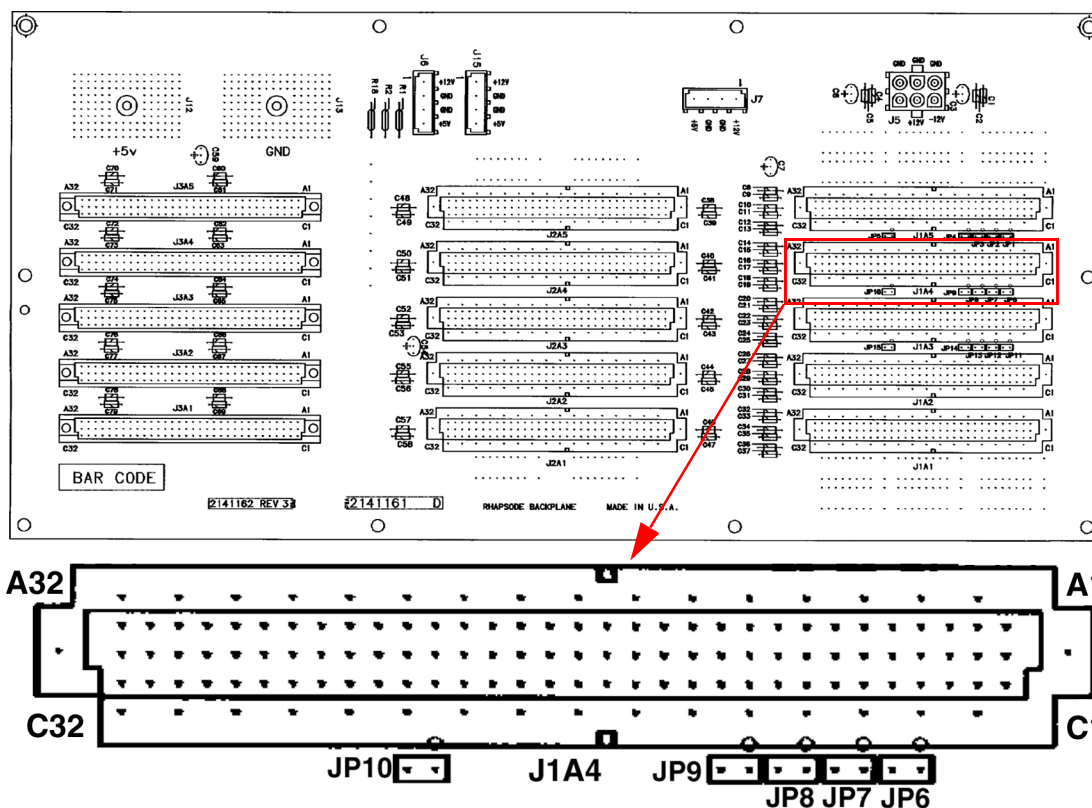

Figure 12 VME Backplane (top), showing Jumper locations (bottom)
- 2.) Get five (5) jumpers from the kit. Position the VME backplane circuit board to gain access to the connector side. Install the five (5) jumpers at JP6 through JP10 (see Figure 12), with the notched end UP. You may need to use needle nose pliers to insert the jumpers.